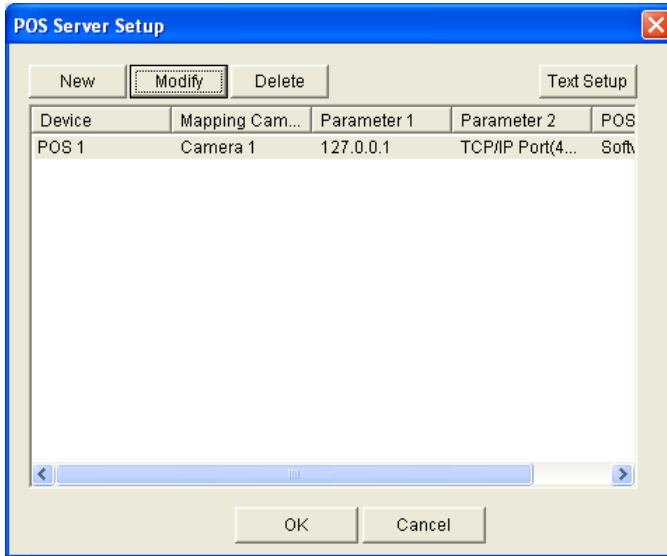

Figure 7-7 POS Server Setup
1. Open the POS Server Setup window (Figure 7-7).